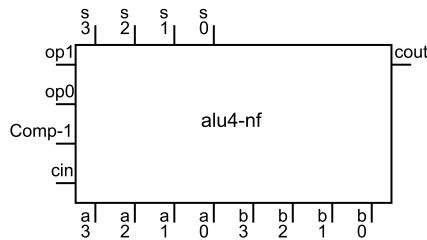

Figure 2.4: Macro of a 4-bit ALU without flags
- ❑ Once the circuit has been built, create the `alu4-nf` macro, placing its inputs and outputs located as shown in figure 2.4. Notice again that inputs `ai` must be to the left of inputs `bi`. Save the project.